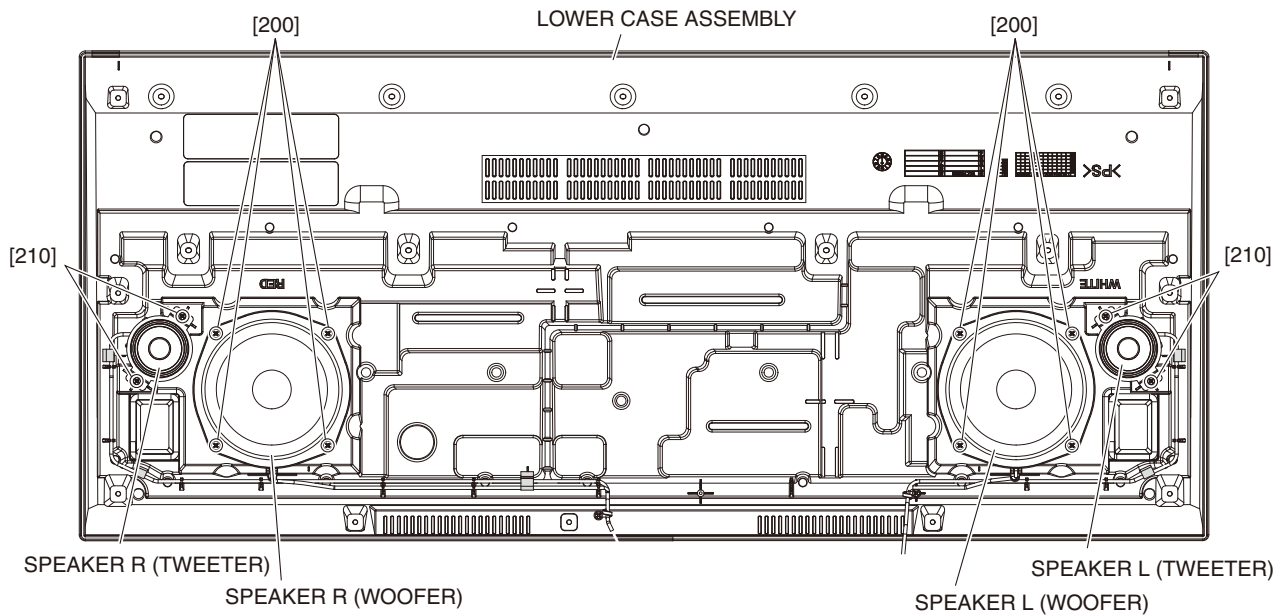

Fig. 10
- 17-2. Remove the two (2) screws marked [210]. The tweeter can then be removed. (Fig. 10)
- 18-2. Remove the four (4) screws marked [200]. The woofer can then be removed. (Fig. 10)